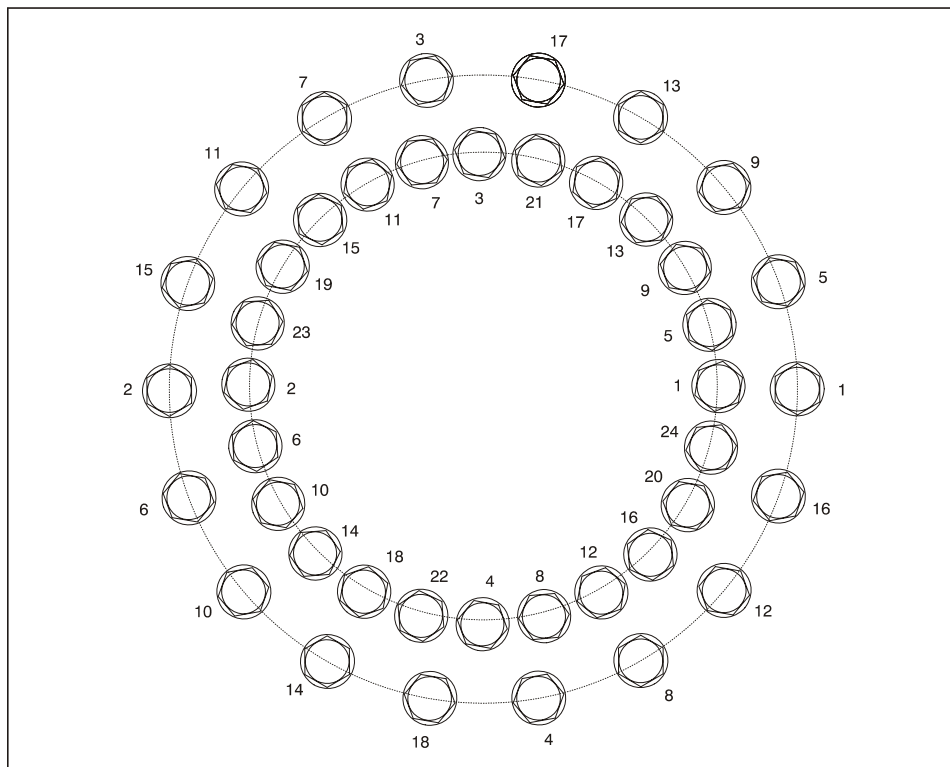

Figure 3-15. Swing Bearing Torquing Sequence
- b. Line up high spot (blue) of bearing with center tooth of worm gear. Set backlash to 0.008 - 0.010 inch (0.20 - 0.25 mm). Tighten capscrews as shown in Figure 3-15., Swing Bearing Torquing Sequence.
- g. Following the torque sequence diagram shown in Figure 3-15., tighten the bolts to an initial torque of 130 ft. lbs. (175 Nm). Then following the same sequence, tighten to a final torque of 190 ft. lbs. (260 Nm).
- l. Following the torque sequence shown in Figure 3-15., tighten the bolts to an initial torque of 130 ft. lbs. (175 Nm). Then following the same sequence, tighten the bolts to 190 ft. lbs. (260 Nm).